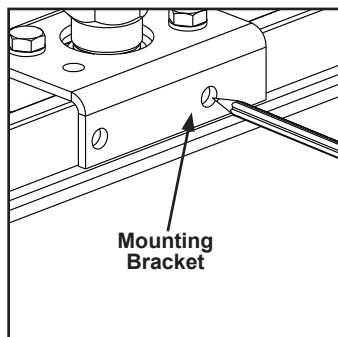

Figure 3-18
- Step 1. Use rail mounting bracket as template to mark rail. See Figure 3-18